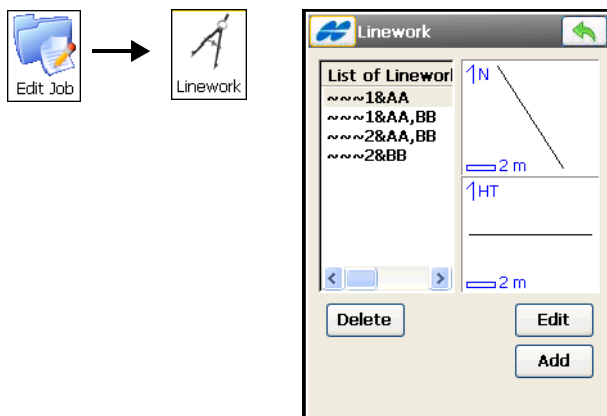

Figure 6-26. Edit Linework
1. On the **Linework** screen, tap the **Add** button to create new linework. The **Edit Line** screen displays (Figure 6-26 on page 6-19).
2. To delete the linework from the list, tap the **Delete** button (Figure 6-26 on page 6-19).
3. To edit the properties of a linework, either double-tap or highlight the linework in the list and tap the **Edit** button (Figure 6-26 on page 6-19).